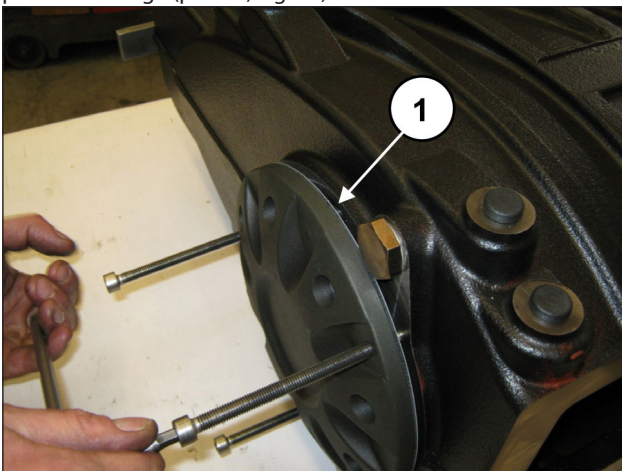
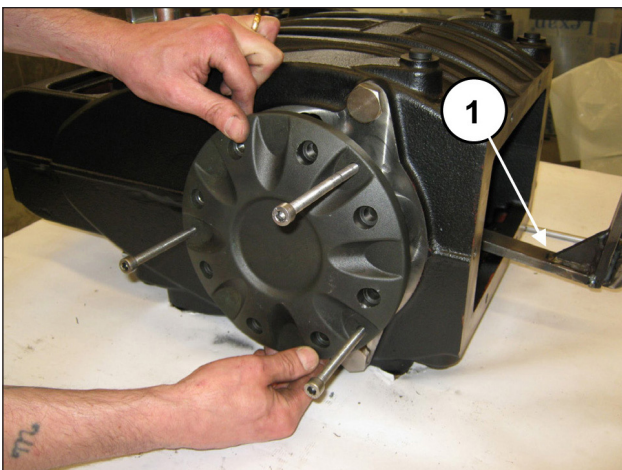

Fig. 29
Fig. 30
Slowly screw in the 3 M8 screws (pos. ①, Fig. 29) to prevent that the cover can tilt too far and get locked in the housing. Remove the bearing cover while supporting the shaft to prevent damage (pos. ①, Fig. 30).